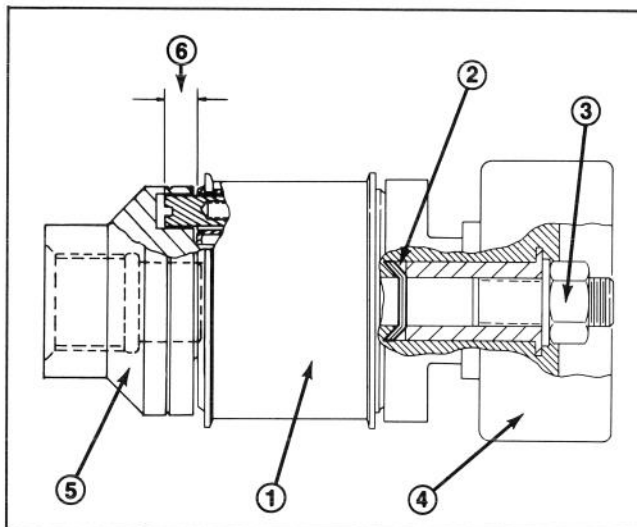

Figure 11
**IMPORTANT:** If the clutch mechanism has separated due to the removal of the nut and washer, ensure the belleville washers are properly installed; refer to figure 11.
1. Remove the left side grooming reel housing cover (Fig.3). Remove the drive belt by loosening the idler pulley (Fig. 11).